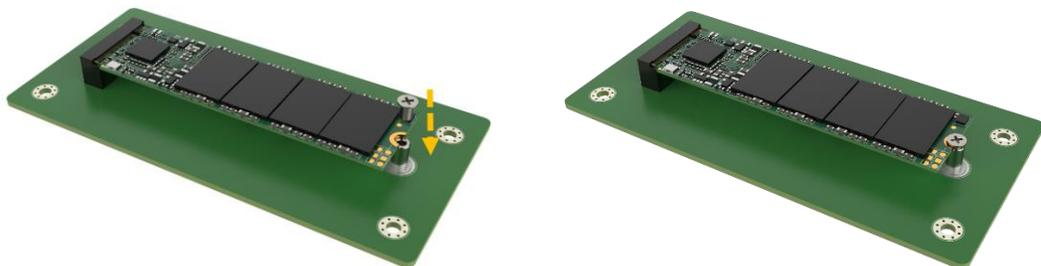

Figure 3-7: Secure the Screw
Step 4: Secure the M.2 module with the previously removed retention screw (**Figure 3-7**).